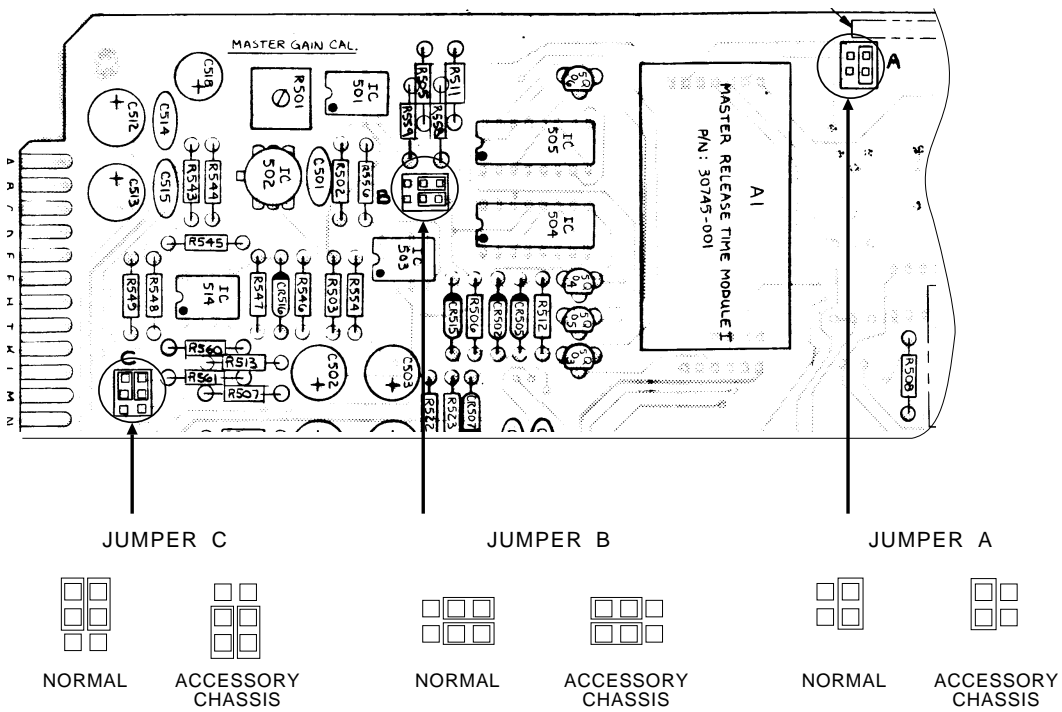

Figure 2-13: 8100AST Jumpers
- C  Refer to Figure 2-13.
- A  Refer to Figure 2-13.